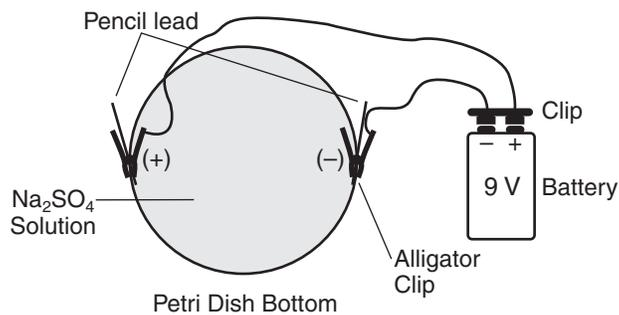

Figure 1.
- To start the demonstration, clip the 9-volt battery into the snaps on the battery cap (Figure 1).